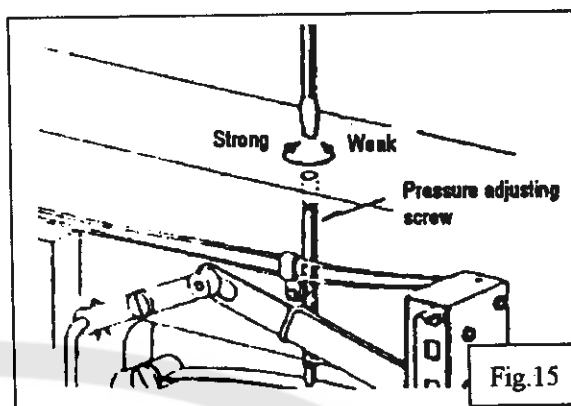

Fig.15
11. Adjustment of pressure of presser foot (Fig.15):